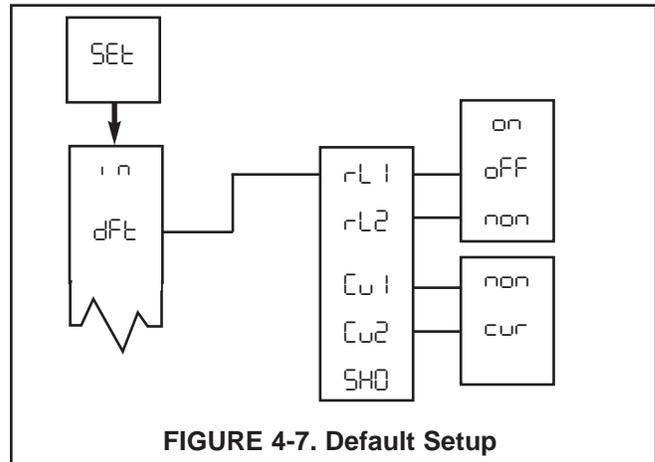

FIGURE 4-7. Default Setup
4.9.1 Default Setup (dFt). Refer to Figure 4-7.